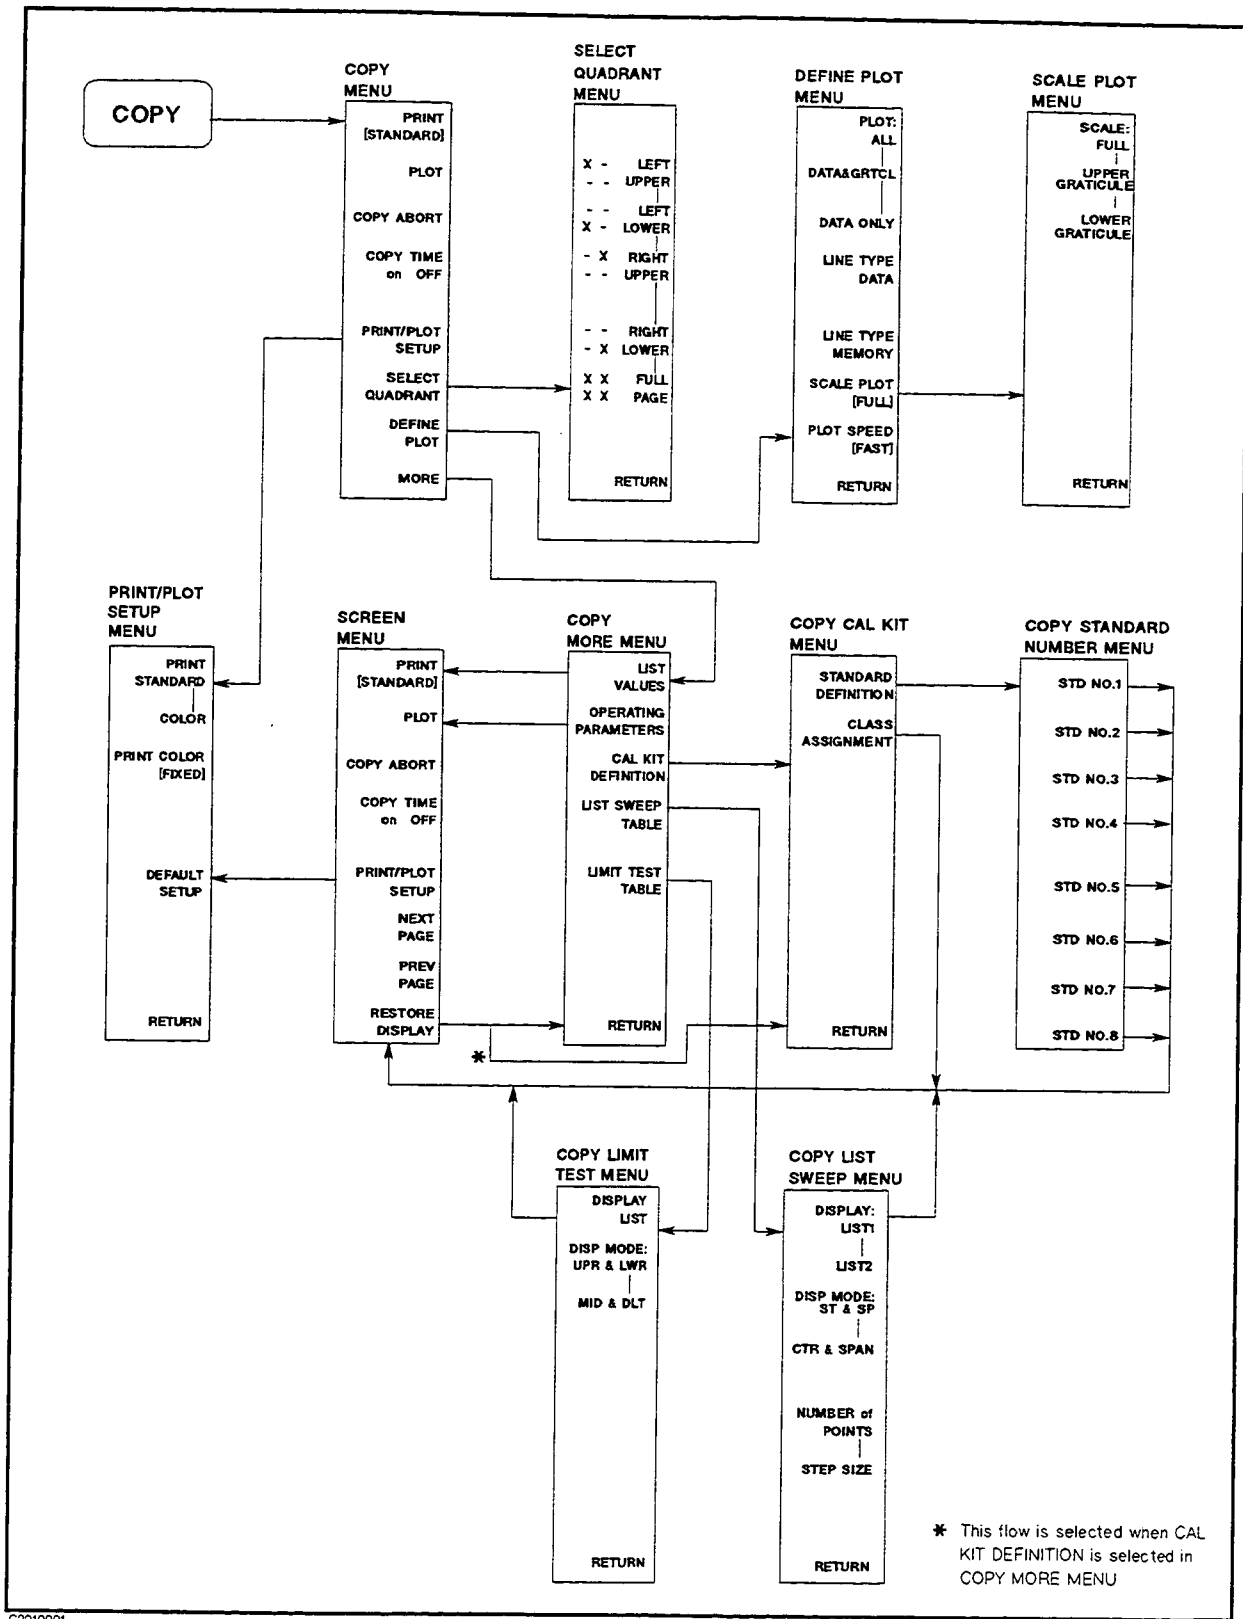

Figure 10-1. Softkey Menus Accessed from the **COPY** Key
Page 10-3, Figure 10-1
- Change figure 10-1 to the following figure: